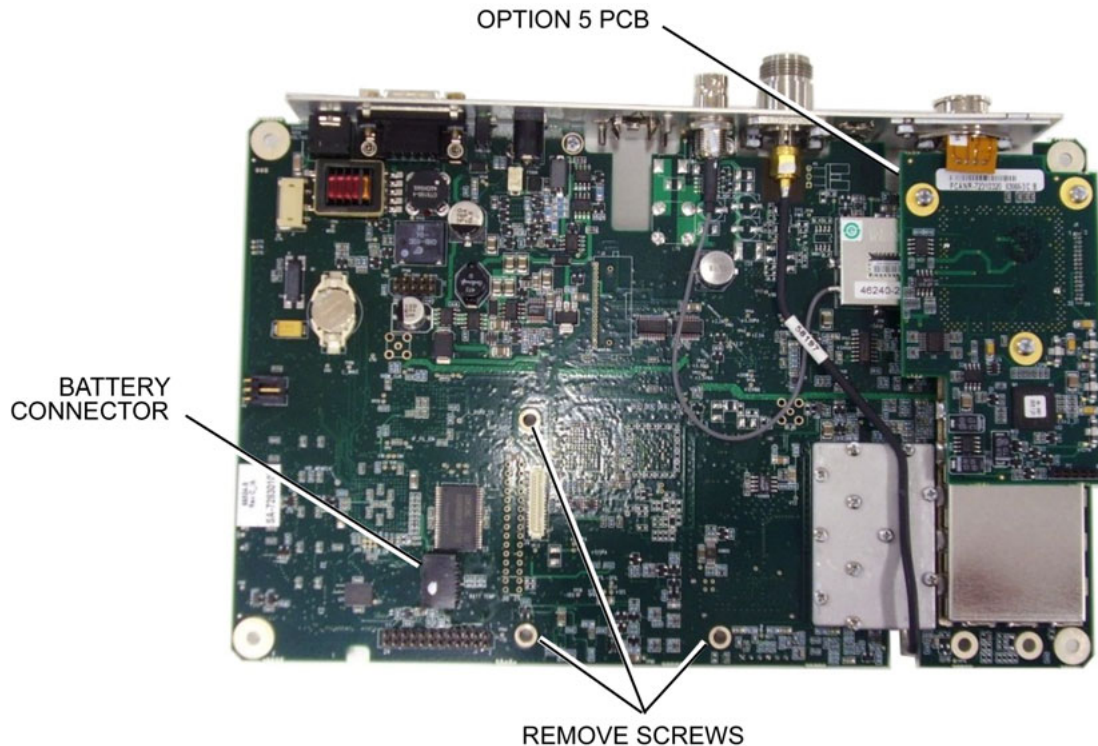

Figure 3-4. S312D Main PCB
1. Remove the 2 screws at the bottom of the main PCB, one screw in the center, and the 5-wire battery cable. (Refer to Figure 3-4 for locations.)
5. The Option 5 PCB must be removed if the main PCB has failed, the spectrum analyzer has failed, or Option 5 has failed. Unplug the 4-pin connector on the Option 5 PCB that connects to the front panel (refer to Figure 3-4). Remove the 3 screws holding the Option 5 PCB, and remove the PCB. It will be transferred to the replacement main PCB. Recalibration is not required after the replacement of Option 5.